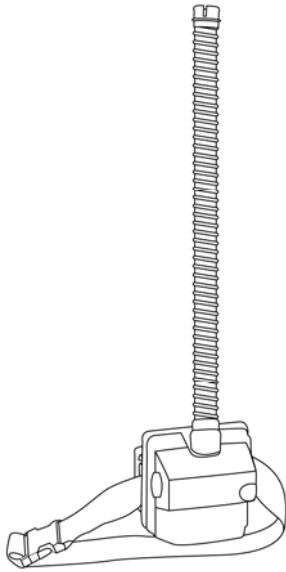
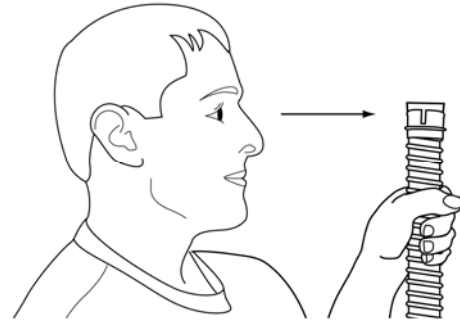

Fig. 10
Fig. 10a
6. Suspend the Air-Mate PAPR by the breathing tube so the breathing tube is vertical with no bends or turns. (Fig. 10) The slotted connector should be held at eye level (Fig. 10a)